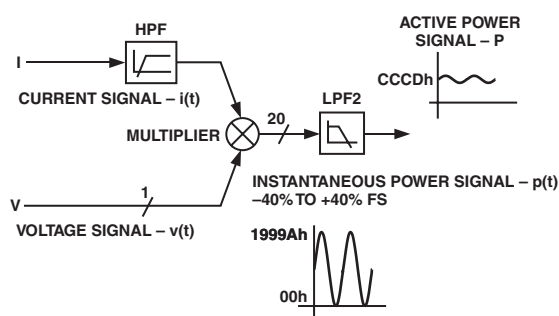

Figure 34. Active Power Signal Processing
Figure 34 shows the signal processing chain for the Active Power calculation in the ADE7759. As explained, the Active Power is calculated by low pass filtering the instantaneous power signal.
As mentioned in the last section, the discrete time sample period (T) for the accumulation register is $1.1 \mu\text{s}$ ($4/\text{CLKIN}$). With full-scale sinusoidal signals on the analog inputs, digital integrator turned off, and the Active Power Gain register set to 000h, the average word value from LPF2 is CCCD—see Figures 34 and 35. The maximum value that can be stored in the Active Energy